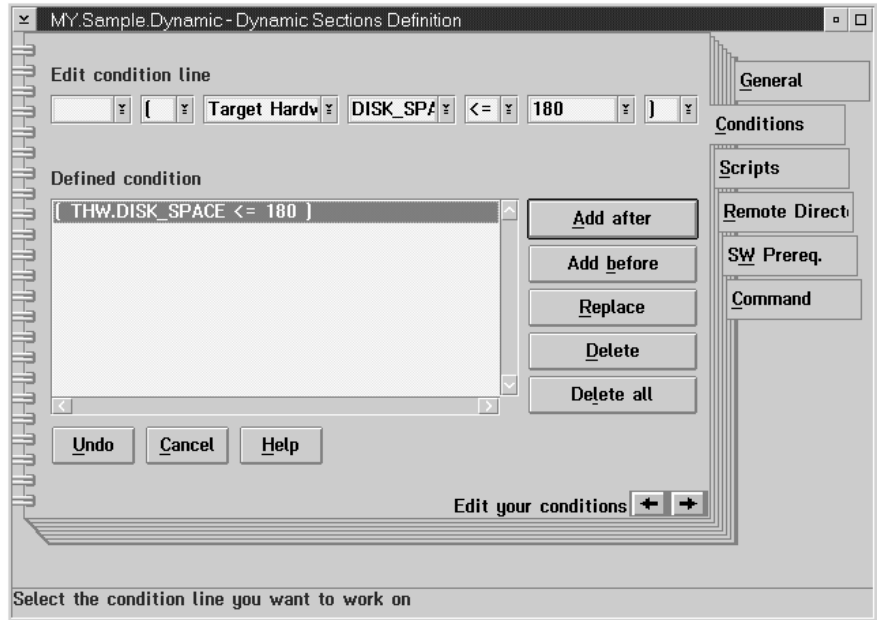

Figure 143. Dynamic section - create notebook - condition page
The Condition page appears, as shown in Figure 143 on page 221.
- 10 Fill in the entry fields contained in the Edit condition line group, to define the rule of the first condition [DISK_SPACE <= 180], as shown in Figure 143.